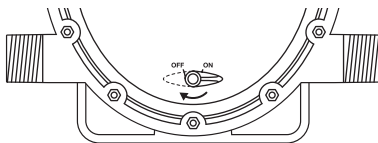

Fig. 7
- The DOSATAK® is fitted with the function on/off (Fig.7);